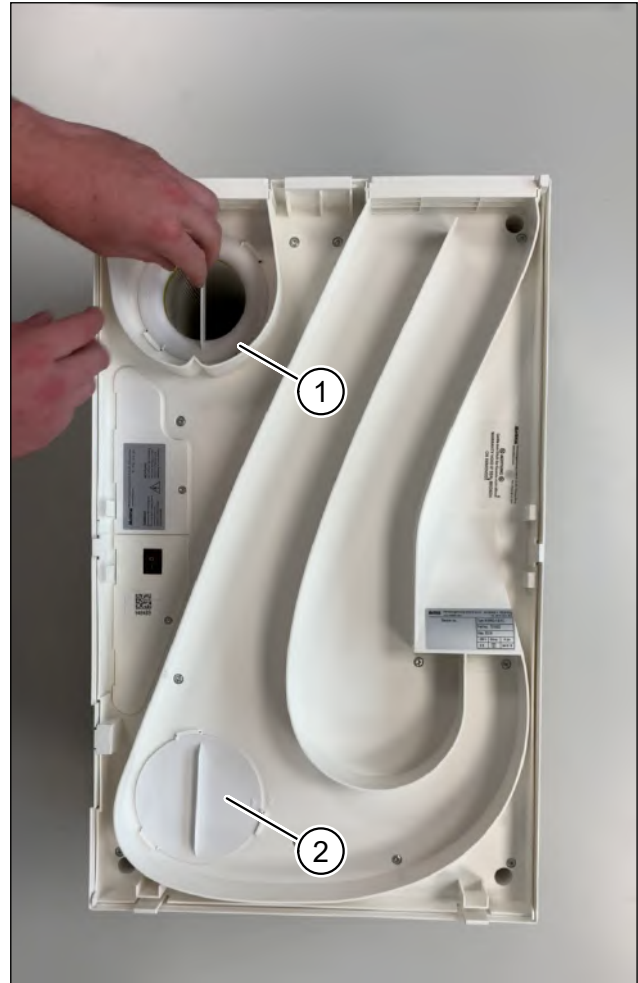

Fig. 2: Remove the air filters
- ▶ Using the hand grip, turn the filter ring (item 1 in Fig. 2) anti-clockwise until the filter ring is released from the retainers.
- ▶ Using the hand grip, turn the filter cover (item 2 in Fig. 2) anti-clockwise until the filter cover is released from the retainers.